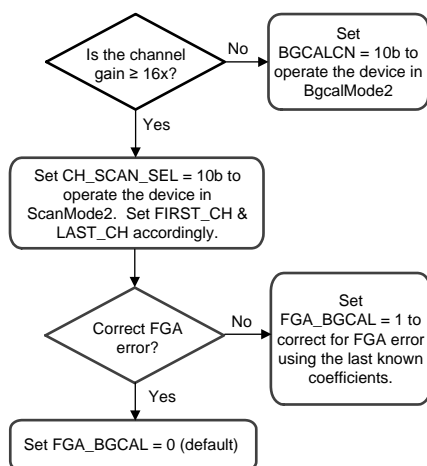

Figure 45. BgcalMode2 Register Settings
- Follow Figure 45 to set other appropriate registers when using this mode.